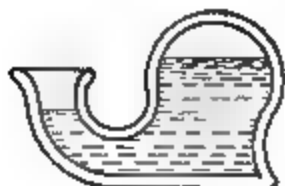
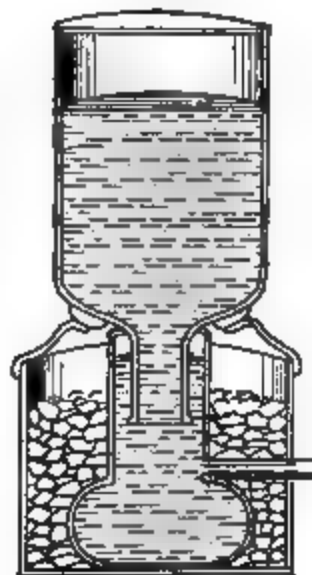
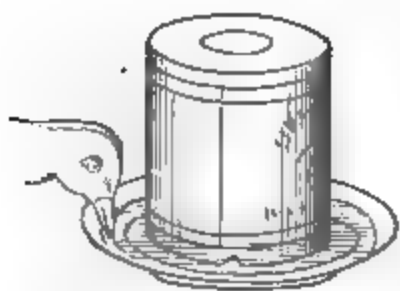

FIG. 107. — Inkwell.
FIG. 108. — Drinking fountain.
FIG. 109. — Poultry fountain.
14. Explain the action of a so-called "pneumatic" inkstand (Fig. 107), or of a drinking fountain (Fig. 108), or of a poultry fountain (Fig. 109).